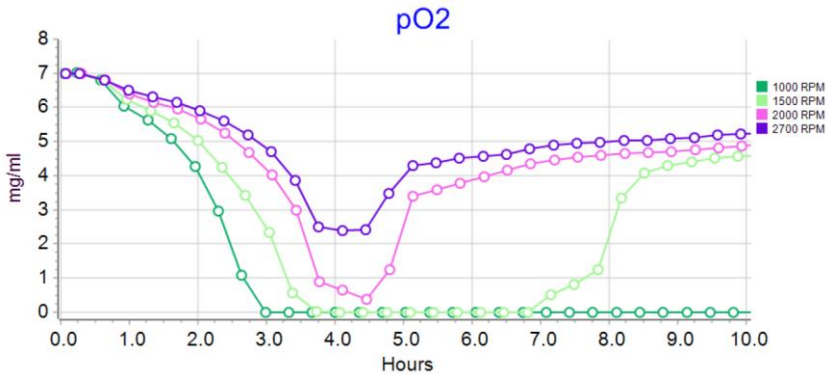

Figure 9. Influence of the speed of rotation of the tube on the dynamics of the change in the concentration of oxygen in the cell suspension.
Working volume was 10 ml, the cultivation temperature was 37 ° C, the measurement interval (MI) of the sensors were every 20 minutes, the reverse spin interval (RSI) of the tube 1 time per second, the intensity of rotation of the tubes - according to the signatures to the legends (fig. 9). The aeration intensity was changed by changing the rotation speed or angular velocity (ω) of the bioreactor tube in discrete ranges of $\omega = 1000$ rpm (green curve), $\omega = 1500$ rpm (light green), $\omega = 2000$ rpm (pink curve) and $\omega = 2700$ rpm (purple curve).
Let us consider the obtained data of the dependence of the change in the rate of growth of oxygen consumption and of pH of the nutrient medium on the rate of rotation of the tube. From the data obtained (see fig. 9), it is clear that an increase in the rotation speed of the tube leads to an acceleration of the growth rate of the optical density of the nutrient medium (OD₆₀₀) and therefore of cells whose concentration (in mg/ml) corresponds to the values of OD₆₀₀. The greatest difference in cell concentration is for 4-5 hours of cultivation and then after 10 hours the OD of all variants is compared in the region of 6.0-6.5 OD₆₀₀, which is the maximum possible yield of biomass of *E. coli* BL21 cells on the LB medium.
From the data presented in fig. 9, it is seen that during the transition of the culture to the logarithmic growth phase, an increase in the intensity of oxygen consumption from the medium consumed for aerobic generation of ATP is observed. If under intensive aeration conditions (corresponding to $\omega = 2000$ rpm and $\omega = 2700$ rpm) the cell culture does not fall into hypoxic shock, then for aeration intensity corresponding to ω from 1500 and below, hypoxia is observed - that is, a state in which the OTR is lower than the intensity of oxygen consumption by the culture. It is interesting to note that this transition is observed at cell concentrations in the medium corresponding to the values given in Table 2.